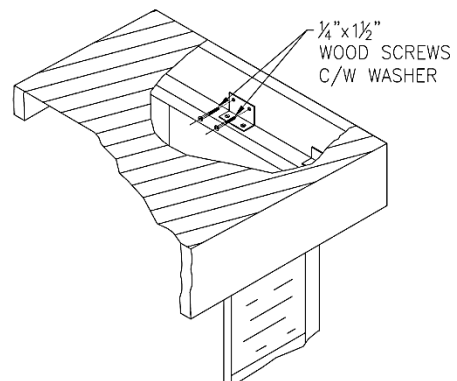

FIG. 11
- c. **Attach Head Frame to Vertical Frames** (Figure 11).